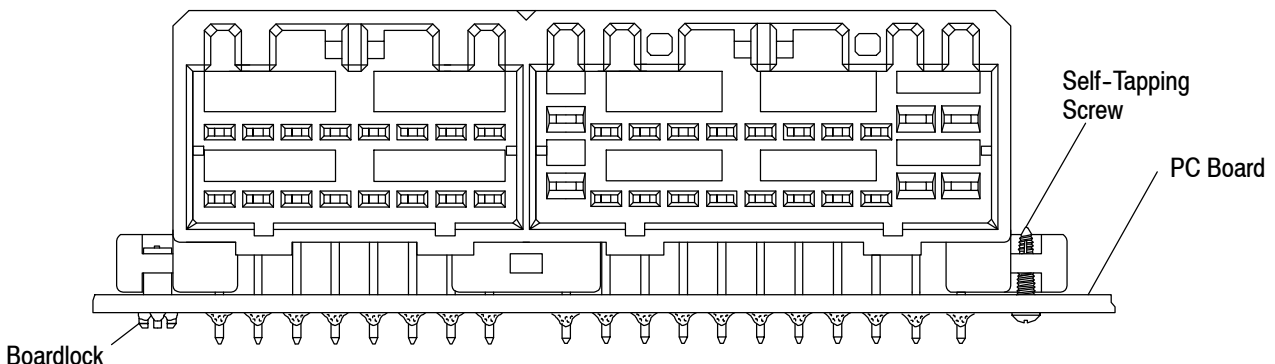

Figure 9
3.10. Methods of Attaching Female Cap Assembly to PC Board (See Figure 9)